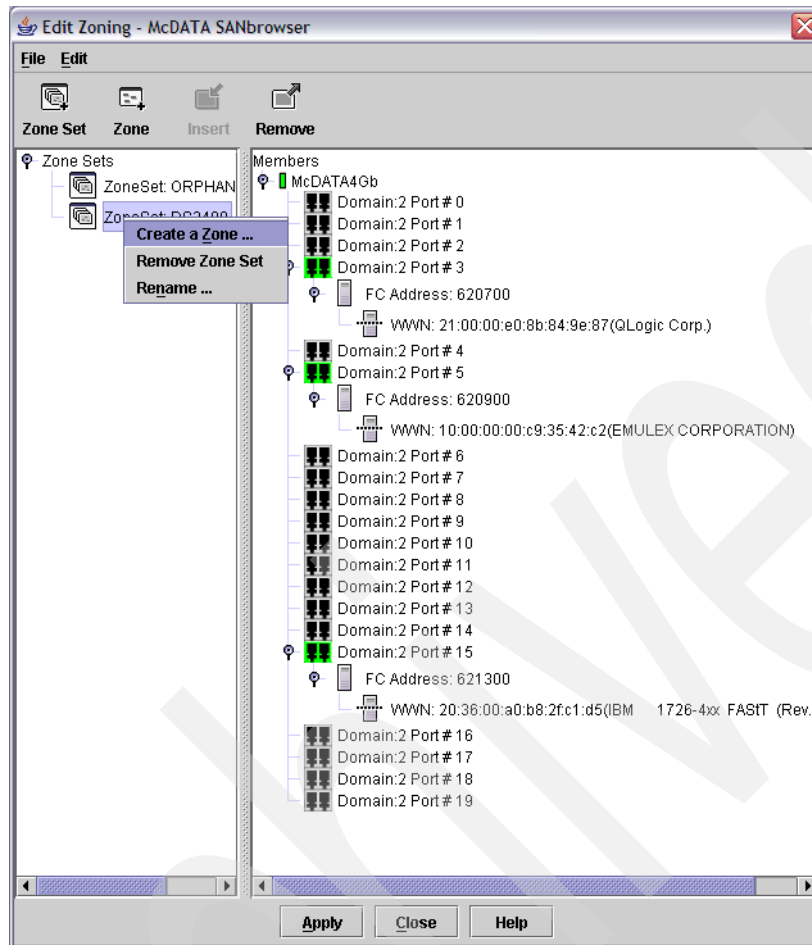

Figure 24-6 Create a zone
3. The zone set appears in the right column (Figure 24-6). Right-click it and select **Create a Zone**.